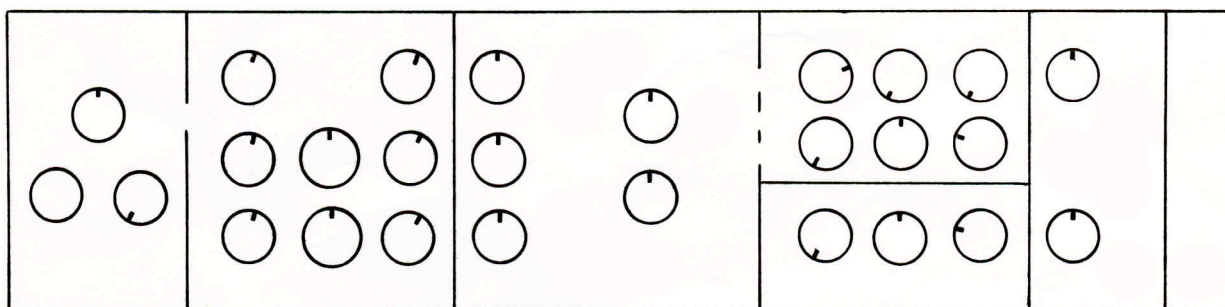

Fig. 1
- 3) Referring to Fig .1, set all of the control knobs as indicated.